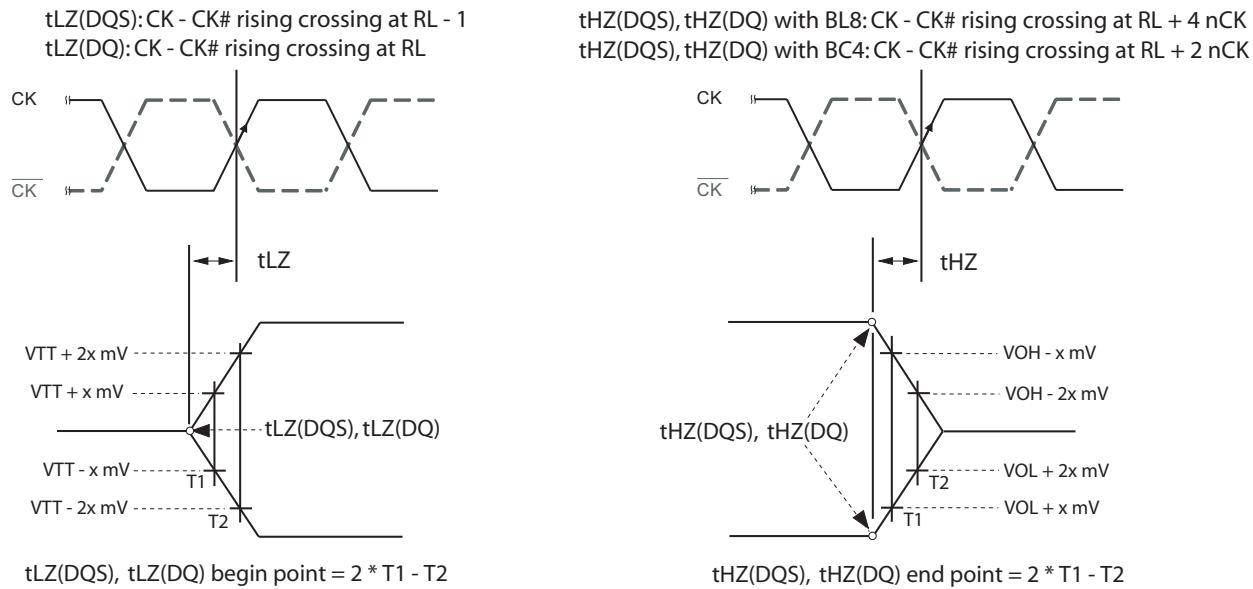

Figure 27. tLZ and tHZ method for calculating transitions and endpoints
tLZ(DQS), tHZ(DQS) for preamble/postamble (see 2.13.2.3 tLZ(DQS), tLZ(DQ), tHZ(DQS), tHZ (DQ) Calculation and Figure 27)
2.13.2.3 tLZ(DQS), tLZ(DQ), tHZ(DQS), tHZ (DQ) Calculation
tHZ and tLZ transitions occur in the same time window as valid data transitions. These parameters are referenced to a specific voltage level that specifies when the device output is no longer driving tHZ(DQS) and tHZ(DQ), or begins driving tLZ(DQS), tLZ(DQ). Figure 27 shows a method to calculate the point when the device is no longer driving tHZ(DQS) and tHZ(DQ), or begins driving tLZ(DQS), tLZ(DQ), by measuring the signal at two different voltages. The actual voltage measurement points are not critical as long as the calculation is consistent. The parameters tLZ(DQS), tLZ(DQ), tHZ(DQS), and tHZ(DQ) are defined as singled ended.